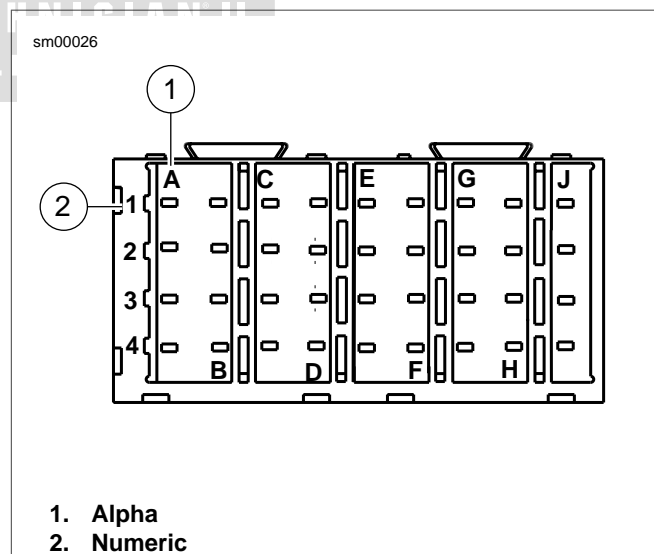

Figure A-37. Fuse Block: Coordinates (typical)
- See Figure A-37. The main fuse block terminal cavity is identified as alpha (1) and numeric (2) coordinates. Refer to the main harness wiring diagram for fuse block terminal cavity coordinates.